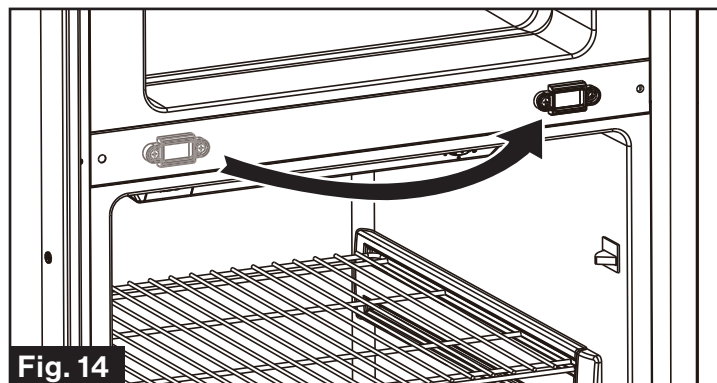

Fig. 14
6. Unscrew the Door Latch Bracket fixing screws and change it to the opposite side. (Fig. 14)